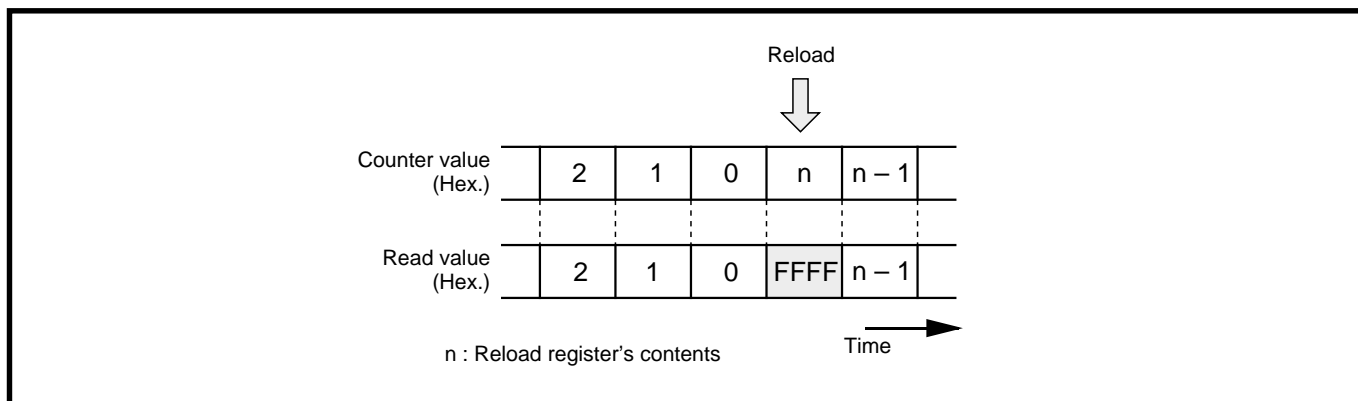

Fig. 7.3.6 Reading timer Ai register
2. By reading the timer Ai register, the counter value can be read out at arbitrary timing. However, if the timer Ai register is read at the reload timing shown in Figure 7.3.6, the value "FFFF₁₆" is read out. If reading is performed in the period from when a value is set into the timer Ai register with the counter stopped until the counter starts counting, the set value is correctly read out.